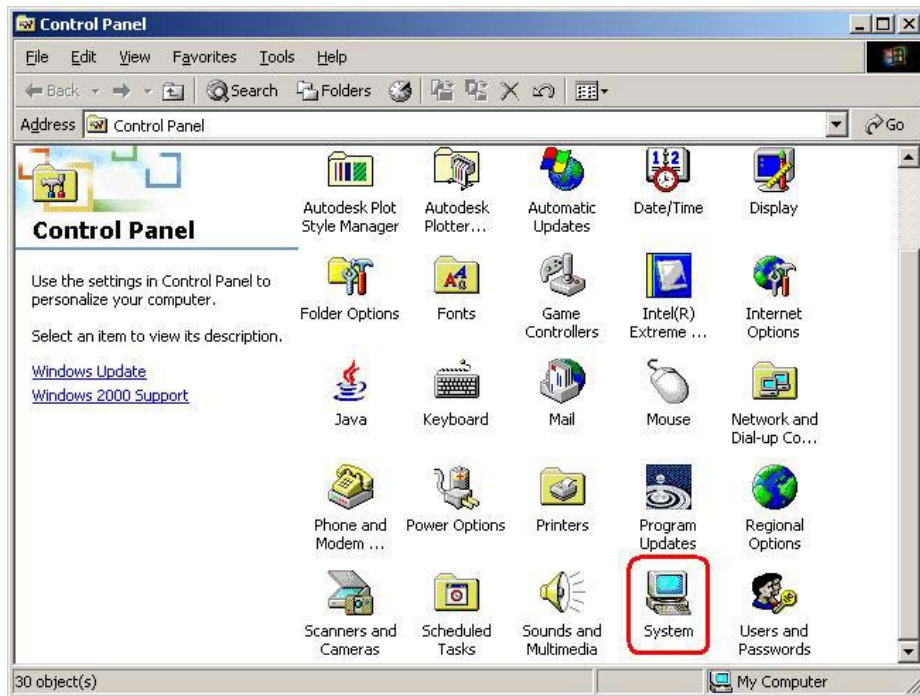

Figure 6-32: Double Click the System Icon
Step 2: Double click the **System** icon (Figure 6-32).